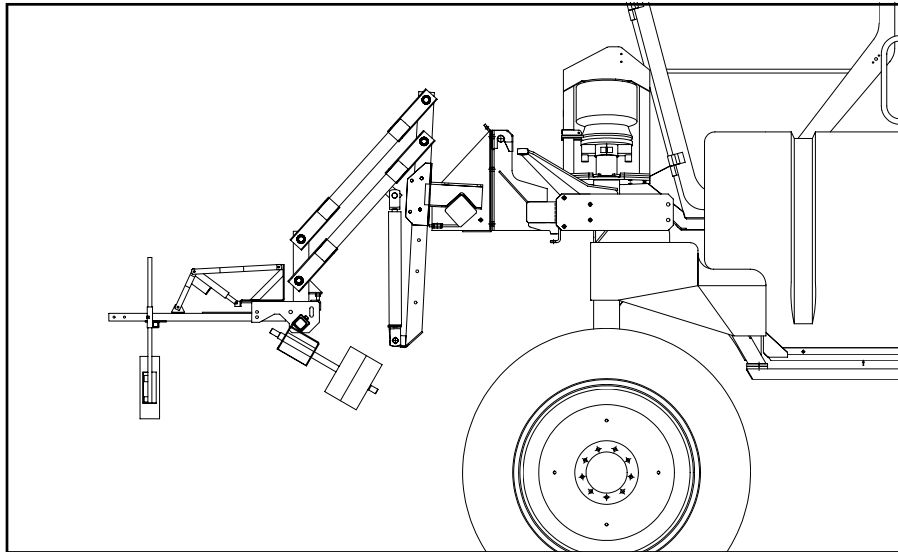

FIG 3.13
1. Attach the quad pullers to each lift arm tool bar (fig. 3.13).